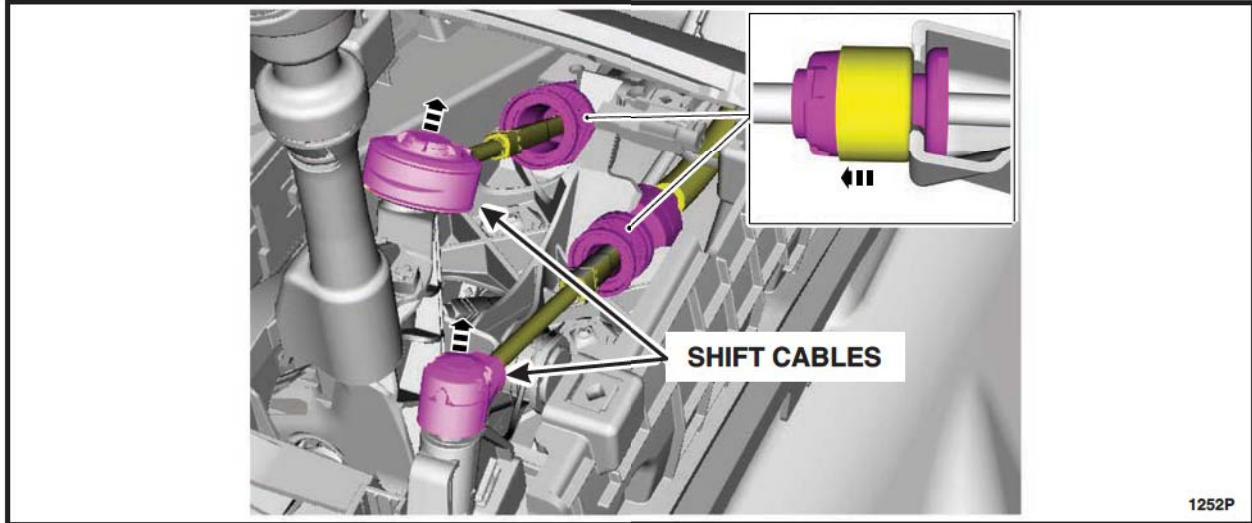

FIGURE 12
20. Remove the shift cables from the gearshift lever. See Figure 12.
12. Install the shift cables onto the gearshift lever. See Figure 12.